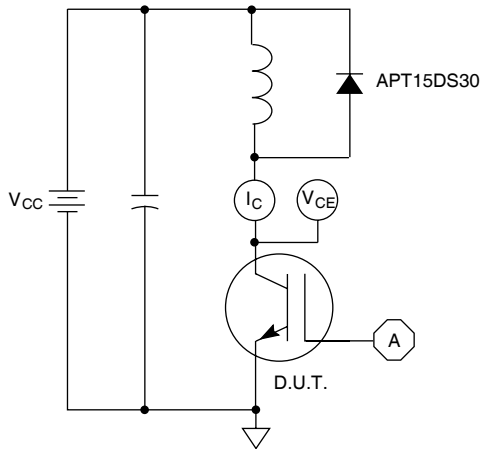

Figure 21, Inductive Switching Test Circuit
⑤ E_{on2} is the clamped inductive turn-on energy that includes a commutating diode reverse recovery current in the IGBT turn-on switching loss. A Combi device is used for the clamping diode as shown in the E_{on2} test circuit. (See Figures 21, 22.)
⑥ E_{off} is the clamped inductive turn-off energy measured in accordance with JEDEC standard JESD24-1. (See Figures 21, 23.)
⑦ Countinous current limited by package lead temperature.